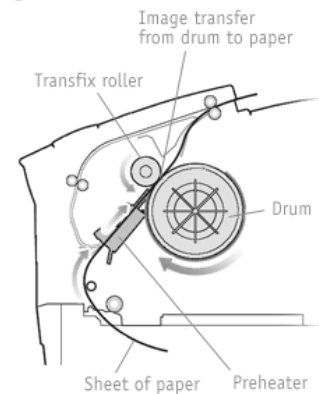

Figure 3
3. Image transfer occurs when the sheet of paper is fed between the drum and a transfix roller, Figure 3.